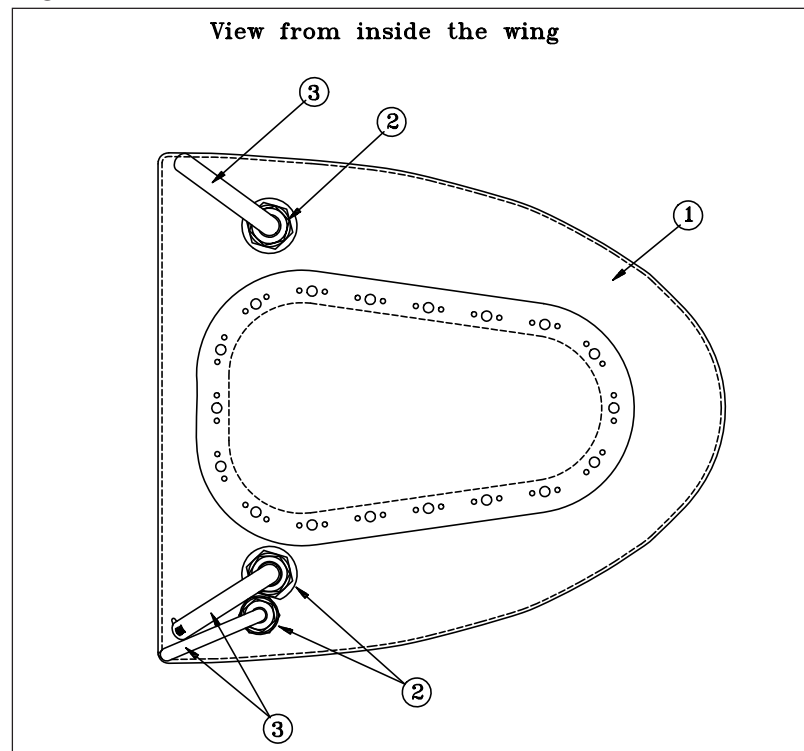

Figure 7
- 1 Remove the inspection door (1, Figure 7) per Chapter 28-10-11.
- 2 Remove the union nuts (2) and the elbow tubes (3).
- 5 Install in reverse sequence of removal after applying Scotch Clad 776 (see Chapter 51-30-04) to the sealing surfaces (fitting to tank root rib). Ensure that the outlet end positions are in the upper- resp. undermost edge of the wing tank (see Figure 7 below).